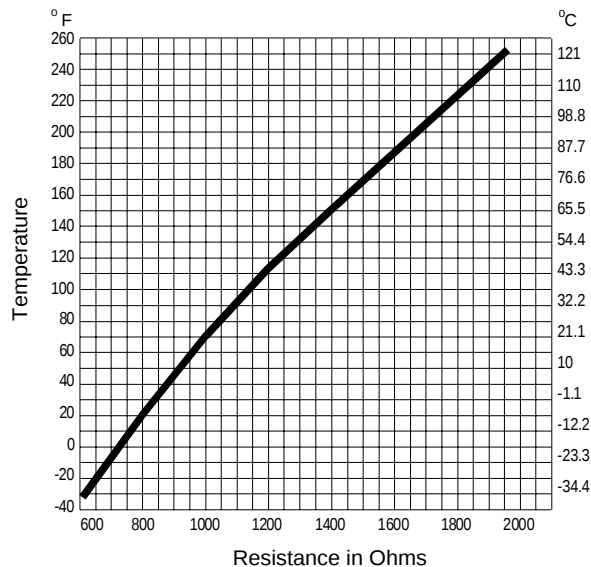

Figure 7: Temperature vs. Resistance Chart for the SET189A Series Sensor
The SET189A Sensor is a PTC (positive temperature coefficient) silicon sensor. The sensor's resistance increases with a corresponding increase in temperature. The sensor has a reference resistance of 1035 ohms at 77°F (25°C); see Figure 7.
2. Disconnect the sensor from the control. Using an ohmmeter, measure the resistance across the two sensor leads. Consult the Temperature vs. Resistance Chart (Figure 7) to verify sensor conformance.